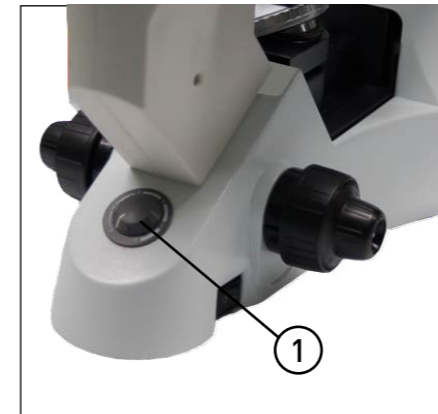

FIGURE 17
4.1.2 Adjusting the brightness (Fig. 17)